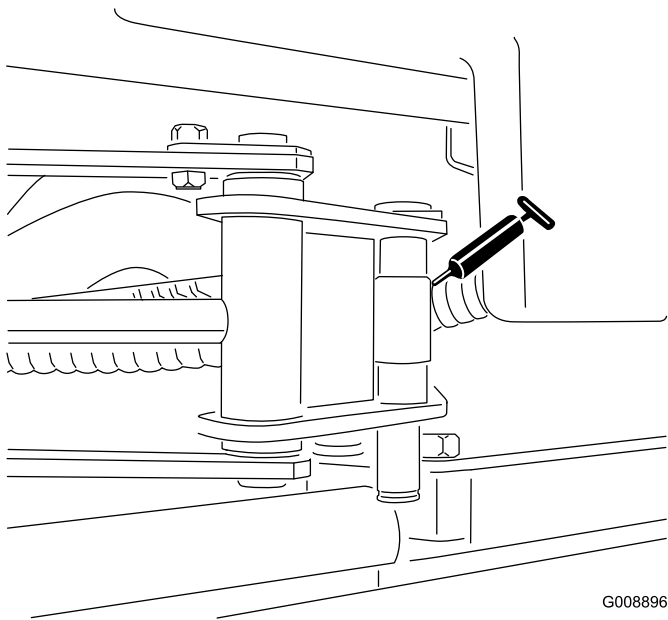

Figure 61
- Sidewinder cylinder ends (2 fittings; Model 03171 only—Figure 61)